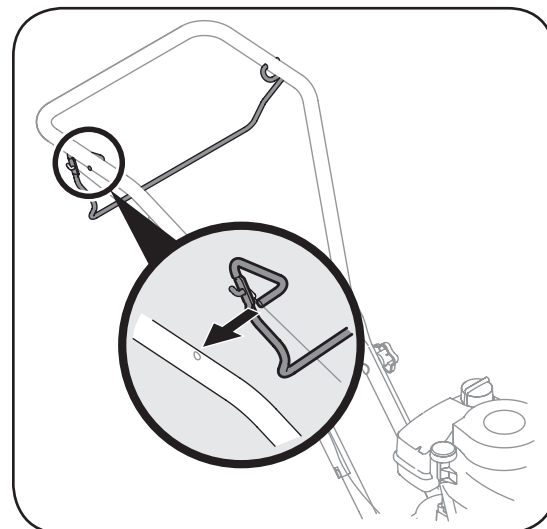

Figure 3-5: Install right end of tine clutch control.
6. Squeeze the tine clutch control inward. Insert right end into the hole on the right side of the upper handle, Figure 3-5.